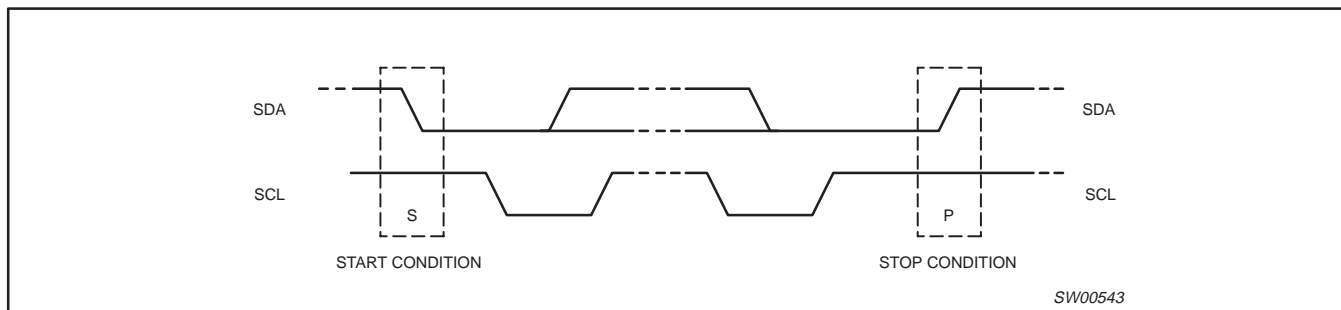

Figure 16. Definition of start and stop conditions
Both data and clock lines remain HIGH when the bus is not busy. A HIGH-to-LOW transition of the data line, while the clock is HIGH is defined as the start condition (S). A LOW-to-HIGH transition of the data line while the clock is HIGH is defined as the stop condition (P) (see Figure 16).